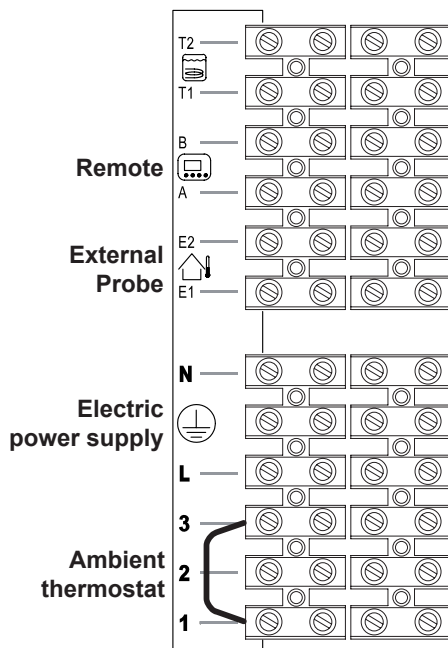

Fig. 6.29
Use the clamps indicated in Fig. 6.29 to connect the external probe.
Use the clamps indicated in Fig. 6.29 to connect the remote.
**Do not remove the electric jumper connected on the ambient thermostat terminal block between "1 and 3" Fig. 6.29.**